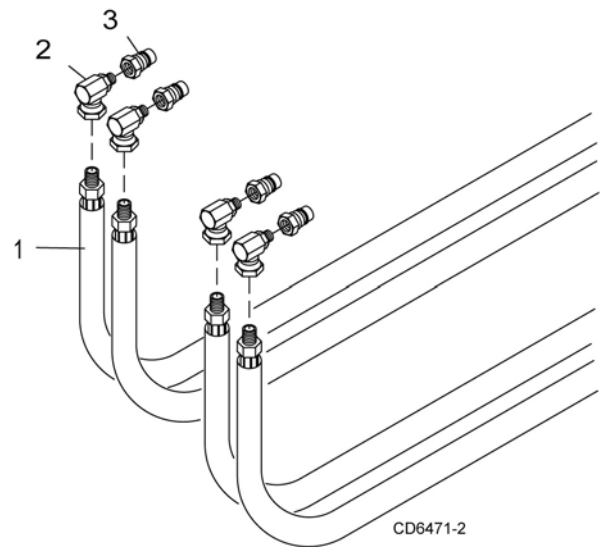

Figure 39. Hose Assembly
1. Attach a 90-degree elbow (2) and male quick coupler (3) to each loader supply hose (1). See Figure 39.